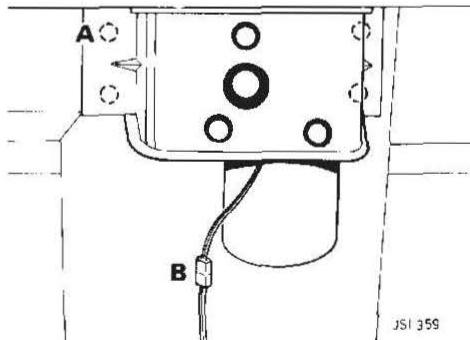

FIG 10
4. Remove the four nuts securing the motor mounting bracket to the rear bulkhead (A Fig 10).
6. Disconnect the electrical harness (B Fig 10).
8. Remove the three hexagon headed screws securing the motor to the bracket (C Fig 10) and remove the motor.